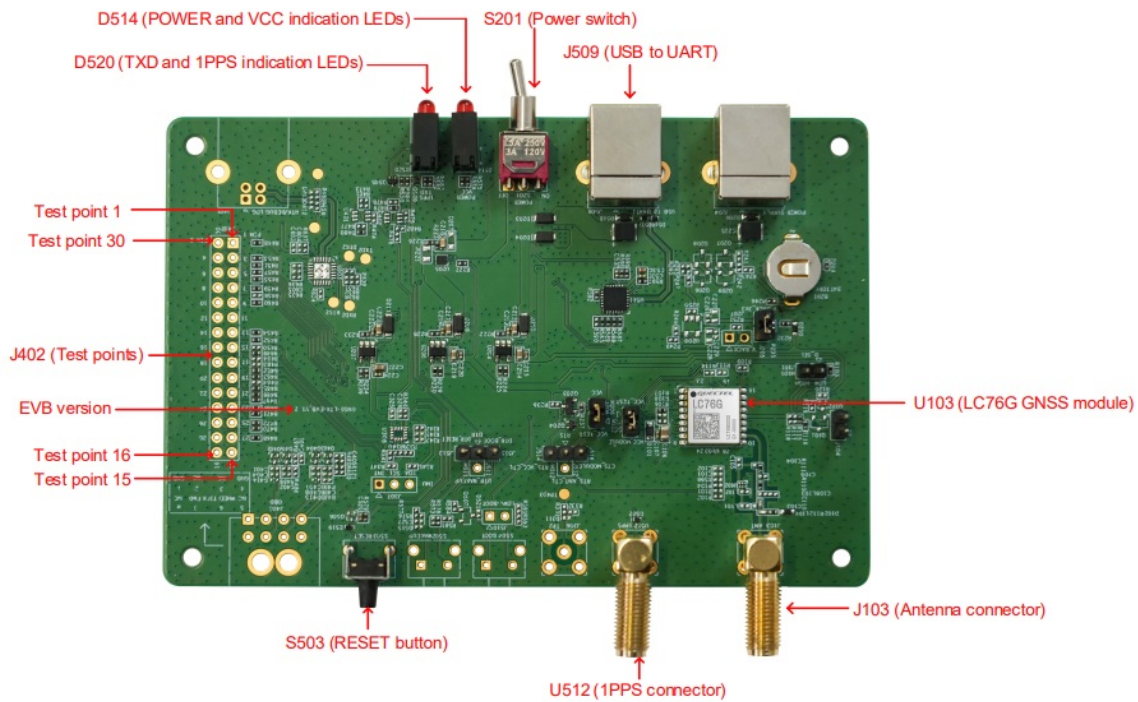

Figure 3: EVB Top View
1. The test points of J402 are arranged clockwise, and their serial numbers are shown in Figure 3: EVB Top View.